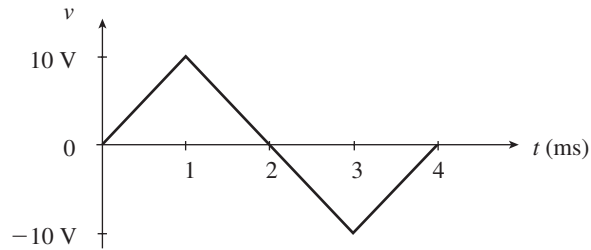

FIGURE 17–52
36. **PSpice** The voltage waveform of Figure 17–52 is applied to a 200- μF capacitor.
- Use PSpice to verify the results. Use voltage source VPWL. You have to describe the waveform to the source. It has a value of 0 V at $t = 0$, 10 V at $t = 1$ ms, -10 V at $t = 3$ ms, and 0 V at $t = 4$ ms. To set these, double click the source symbol and enter values via the Property Editor as follows: **0** for T1, **0V** for V1, **1ms** for T2, **10V** for V2, etc. Run the simulation and plot voltage, current, and power using the procedure we used to create Figure 17–30. Results should agree with those of (a).